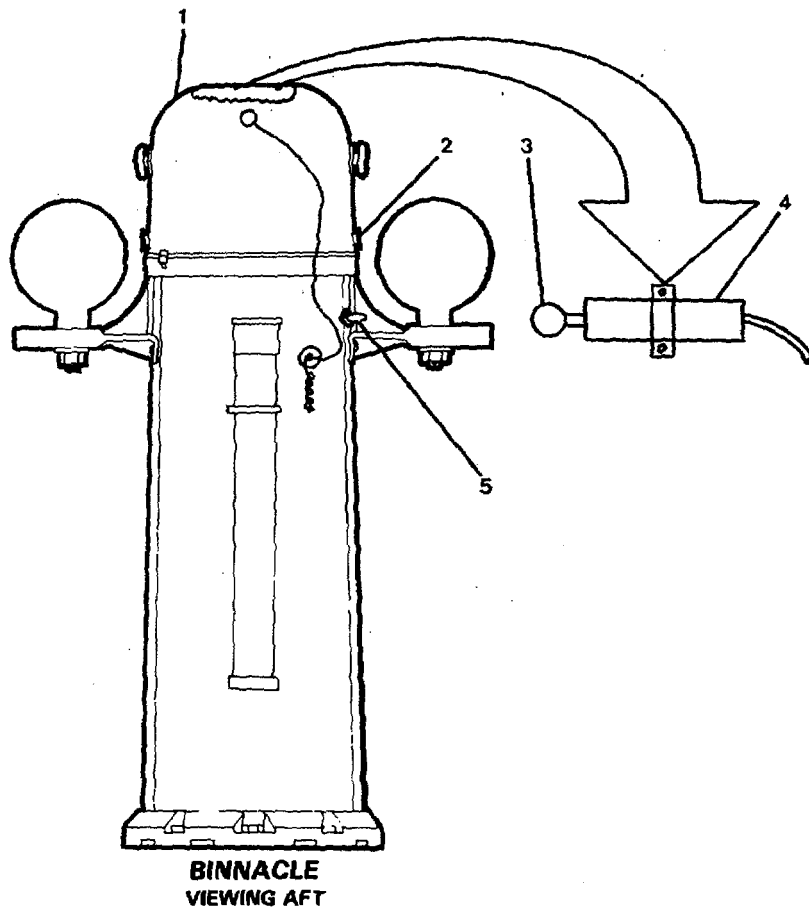
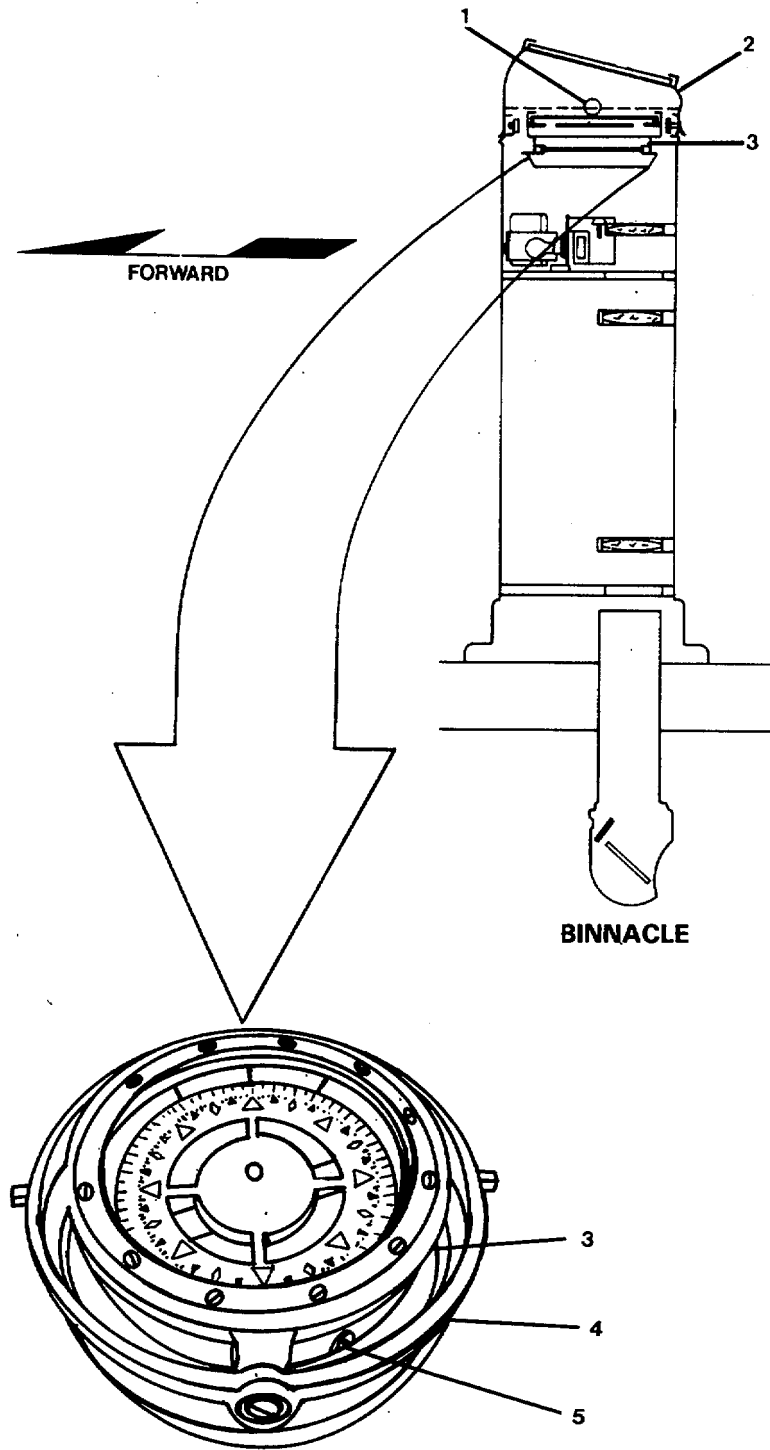

FIGURE 2-22. Binnacle Lamp Replacement.
FIGURE 2-23. Magnetic Compass Fluid Replacement.
2-28. Repair Binnacle. (FIGURES 2-22 and 2-23)
- (1) On binnacle (FIGURE 2-22), set lighting toggle switch (5) to OFF.
- (2) On pilothouse dc panel, set circuit breaker No. 1F (MAGNETIC COMPASS LT) to OFF. Tag "Out of Service, Do Not Operate."
- (3) On top of wheel house, release two hood,(l, FIGURE 2-22) clamps (2) and remove hood (1) from binnacle. (Hood lamp cabling is attached to binnacle.)
- (4) While holding hood (1), reach inside and remove incandescent lamp (3) from lampholder (4).
- (5) Install replacement incandescent lamp (3) in lampholder (4).
- (6) Install hood (1) on binnacle and secure with two clamps (2).
- (7) On pilothouse dc panel, set circuit breaker No. 1F (MAGNETIC COMPASS LT) to ON. Remove "1Out of Service, Do Not Operate" tag.
(8) On binnacle (FIGURE 2-22), set lighting toggle switch (5) to ON.
(9) Verify binnacle lamp lights.
(1) On binnacle (FIGURE 2-22) set lighting toggle switch (5) to OFF.
(2) On pilothouse dc panel, set circuit breaker No. 1F (Magnetic Compass LT) to OFF. Tag "Out of Service, Do Not Operate".
(3) On binnacle (FIGURE 2-23), release two clamps (1) and remove hood (2).
(4) Tip magnetic compass (3) upright in gimbal ring (4) so that filler plug screw (5) is at top.
(5) Back filler plug screw (5) out SLOWLY. If fluid should start to leak out, secure filler plug screw (5) to prevent any further fluid loss.
(6) Reposition magnetic compass (3) until bubble is directly beneath filler plug screw (5).
(7) Back out filler plug screw (5) SLOWLY and remove.
(8) Fill magnetic compass (3) with compass oil if compass was manufactured after 1970 (see data plate); use distilled water if compass was manufactured before 1970.
(9) Secure filler plug screw (5) into magnetic compass (3) bowl.
(10) Replace hood (2) on binnacle and secure with two clamps (1).
(11) On pilothouse dc panel, set circuit breaker No. 1F (Magnetic Compass LT) to ON. Remove "Out of Service, Do Not Operate" tag.
(12) On binnacle (FIGURE 2-22) set lighting toggle switch (5) to ON.
(13) Verify that hood lamp lights.